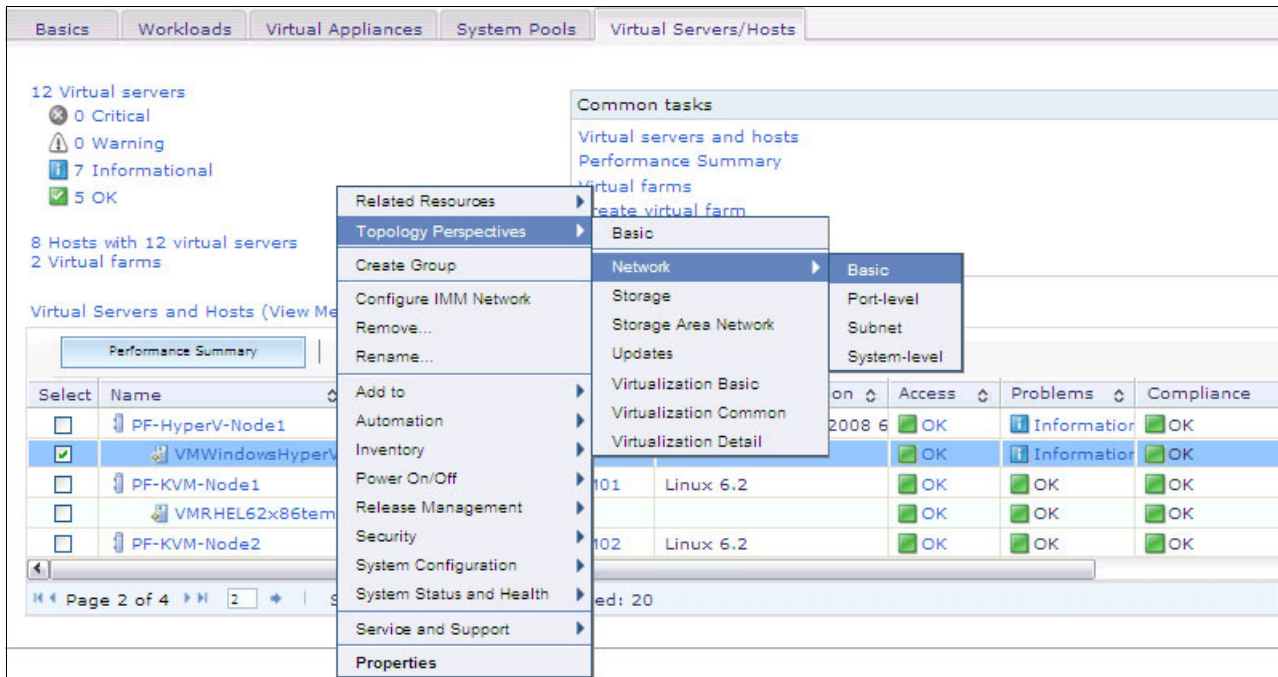

Figure 12-32 Selecting a basic network topology
2. Right-click the server and select **Topology Perspective** → **Network** → **Basic**, as shown in Figure 12-32.